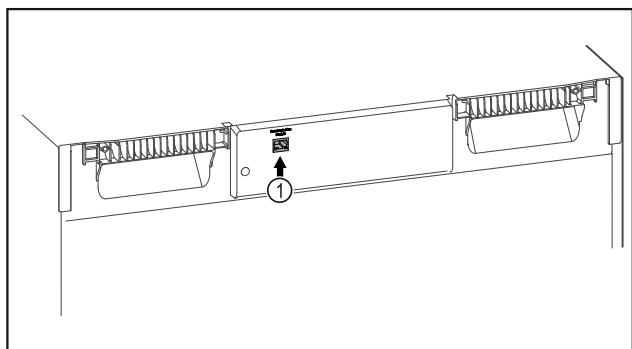

Fig. 98
- ☐ SmartModule Fig. 98 (1) is in use.